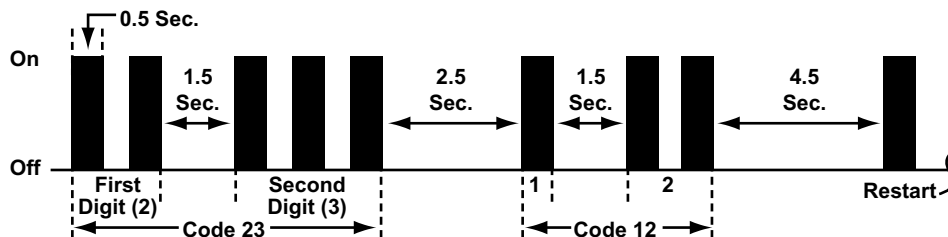

Figure 7-17 Transmission Code Type 09
- Type 09 transmission codes, see Figure 7-17 and Table 7-4